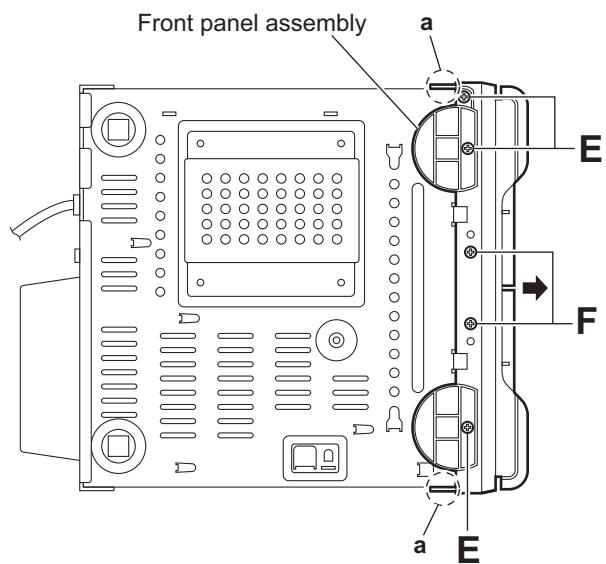

Fig.7
(9) From the bottom side of the main body, remove the three screws **E** and two screws **F** attaching the front panel assembly. (See Fig.7.)
(10) Release the claws **a** and remove the front panel assembly from the main body in the direction of the arrow. (See Fig.7.)